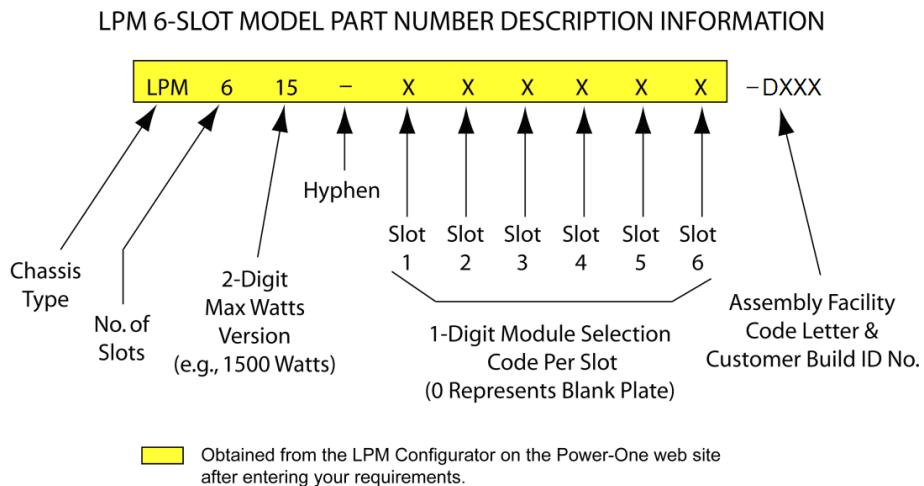

Figure 2. LPM 6-Slot Part Number Structure
NOTE 1: To determine your desired power supply's part number, please refer to *Figure 2* for a detailed part number description. Use the **LPM616 Product Configurator** located in the Modular Section on our website, or use our contacts page to locate a contact or distributor for further assistance.
- LPM616 Low Profile Modular 6-slot, 1600W, with single-phase AC input. (see *Figure 2*)